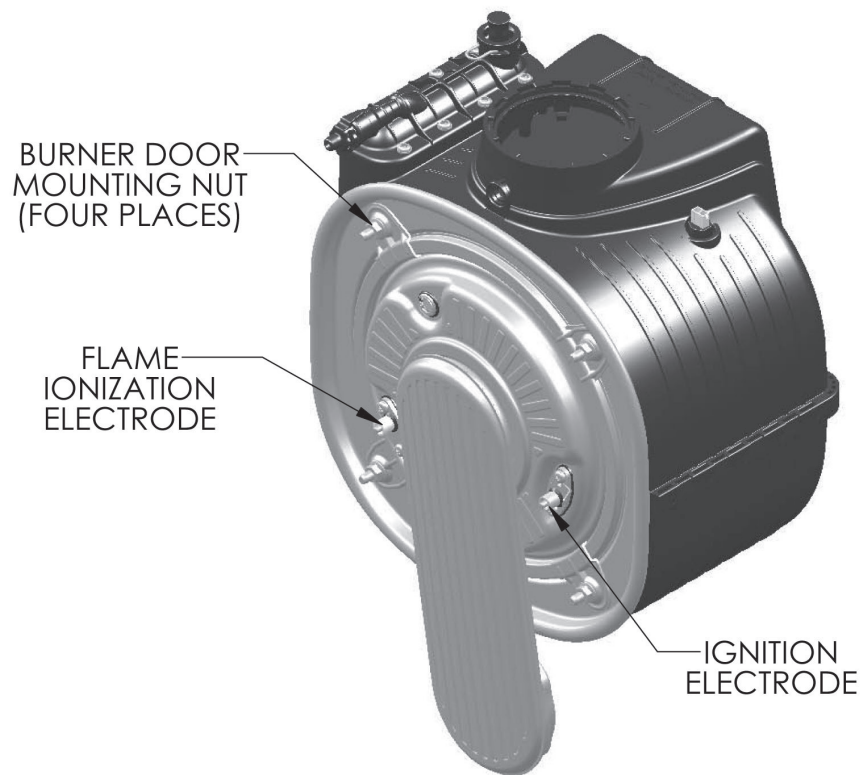

Figure 14.1: Flame Ionization Electrode and Ignition Electrode Location
- i. **Unplug the ignition, ground, and flame rod wires** from the ignition electrode and the flame rod (Figure 14.1).
- j. **Use a 10 mm wrench to remove the four nuts** securing the fire door to the heat exchanger (Figure 14.1). Carefully remove the door/blower/gas valve assembly from the heat exchanger, being careful not to damage the refractory insulation on the inside of the door (see Refractory Warning on next page) or the electrodes.